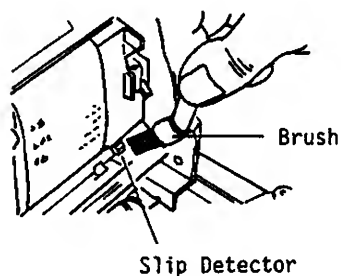

Fig. 21
5. Clean the slip detector with a brush. After cleaning, make sure that the Ink Ribbon is properly mounted on the Ribbon Guides. (Fig. 21)